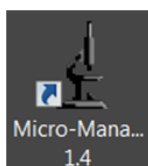

Figure 2: The Micro-Manager software can be found on the Web scope desktop.
1. Double-click on the “Micro-Manager” icon, which is located on the Desktop, to start the data acquisition software. See Figure:2